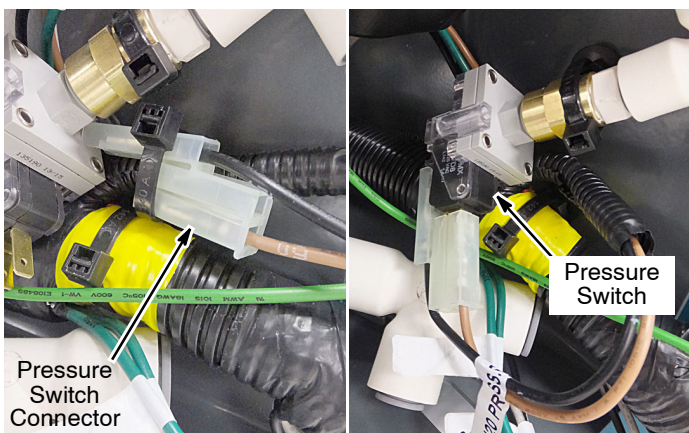

Fig. 32
16. Locate the factory installed pressure switch connector wire-tied to machine harness (Figure 32). Cut wire-tie and plug connector into the pressure switch as shown.